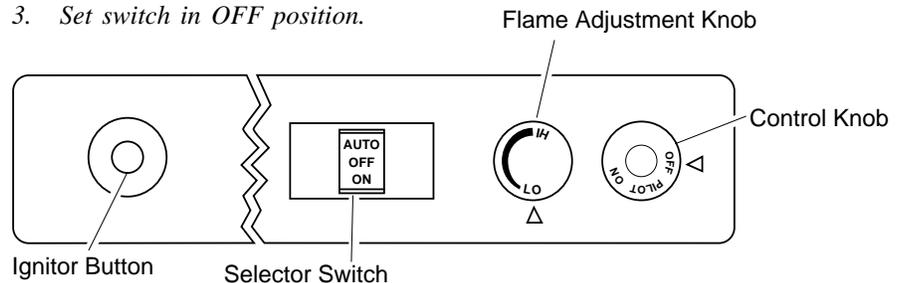

Figure 21 - Control Knob and Ignitor Button Location (Shown as Supplied, No Control Options)
- Wait five (5) minutes to clear out any gas. Then smell for gas, including near the floor. If you smell gas, **STOP!** Follow "B" in the safety information, column 1. If you don't smell gas, go to the next step.
- Press in and turn control knob counterclockwise  to the PILOT position. Press in control knob for five (5) seconds (see Figure 21).